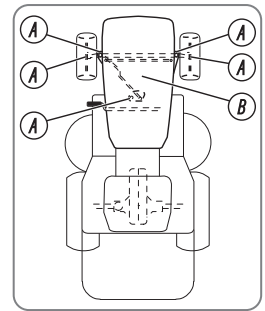

Fig. 34
- A. General lubrication.** Lubricate the spindle grease connection and the gear teeth of the sector gear and the steering column (Fig. 34).